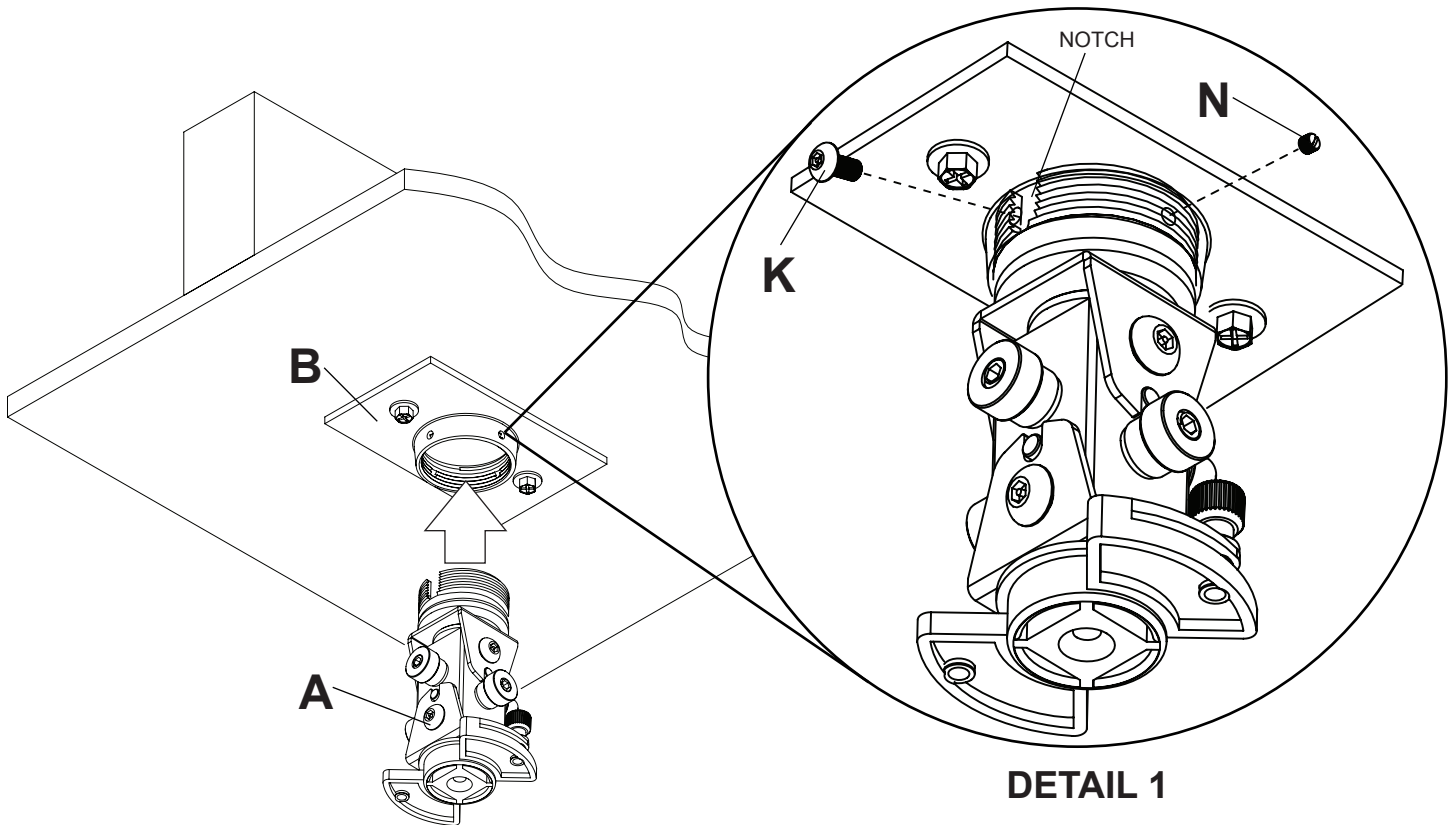

fig. 2.1
- Hand thread projector mount assembly (A) into ceiling plate (B) as shown in figure 2.1. Align the notch of projector mount assembly with one of the four holes in ceiling plate (B) and secure with an M5 x 10 mm socket pin screw (K) using allen wrench (O) as shown in detail 1.
**NOTE:** Slotted set screw (N) is used to jam against the threads of the projector mount assembly to prevent any excess movement of the projector mount assembly (A). Do not overtighten screw; overtightening screw will damage threads making it difficult to separate projector mount assembly from ceiling plate.